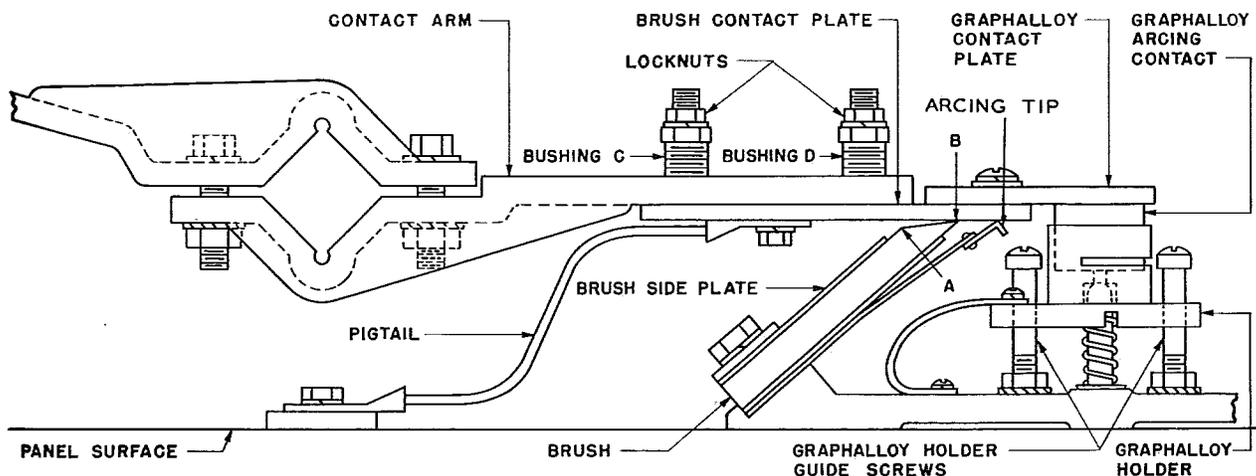

Fig. 4 - Contact Adjustment for Laminated-type Contacts and Graphalloy Arcing Contacts
(1) To measure contact pressure of auxiliary contacts, operate the contactor manually to the desired position. Place the gauge against the contact spring as near to the moving contact as possible and exert a pressure with the gauge away from the stationary contact. Observe the gauge as the moving contact leaves the stationary contact. Replace contact springs which have low contact pressure.
** (2) On contactors having laminated brush main contacts of the type shown on Fig. 4, first adjust the graphalloy arcing contacts, if any, in accordance with (a) below and then adjust the laminated brush contact in accordance with (b), (c), (d), and (e). On multipole contactors do each step on all like contacts before proceeding to next step.
(b) Loosen the C and D bushings shown on Fig. 4 until the brush contact plate is stopped up against the underside of the contact arm.